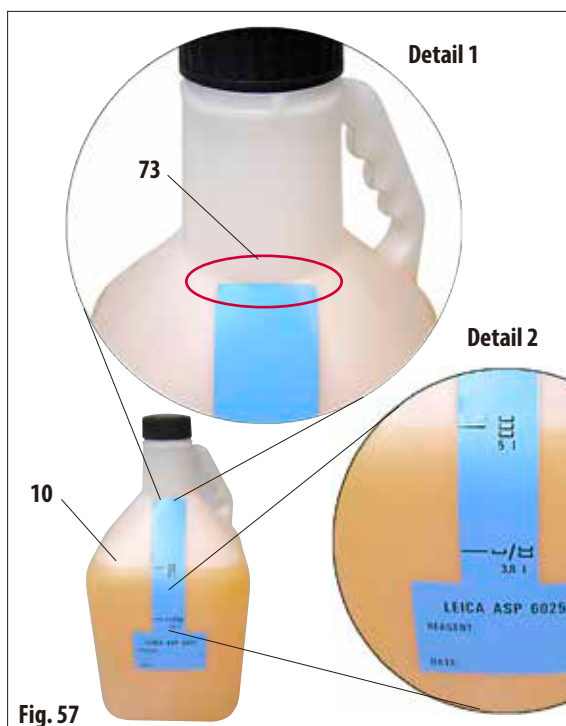

Fig. 57
To ensure that the filling level marks are valid, apply the narrow side of the label exactly at the point on the RTU-bottle (10) where the bottleneck ends (Detail 1 in Fig. 57), then press it on vertically from top to bottom.
The symbol at 5 l (Detail 2 in Fig. 57) means that the RTU-bottle must be filled up to that point if the retort is to be filled up to the third level sensor (corresponds to loading with three baskets).
The station number can likewise be noted on the label as well as the date when the specified reagent was commissioned (Fig. 57).